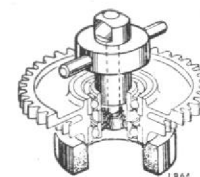

Fig. 7.
4. Place the double idler gear on pot fixture T.74776; pass expanding extractor T.74778 through the bore of the first ball bearing so that it locates in the bore of the second ball bearing. Tighten the centre nut of the extractor to expand the collet in the bore, thus gripping the bearing inner race; press out the bearing, Fig. 7.